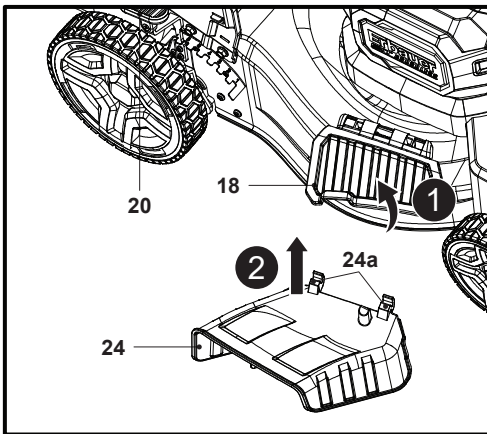

Fig. 16
1. Set the cutting height adjustment lever (20) higher than the second lowest position.
2. Rotate the side deflector guard (18) towards the motor and hold it in position (Fig. 16, step 1).
3. Align and hang the hooks (24a) of the side discharge attachment (24) onto the rods (Fig. 16, step 2).